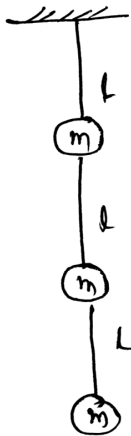

Figure 3 Q.8
- b. Obtain all the influence coefficients for the triple pendulum shown in Fig. 3. 14